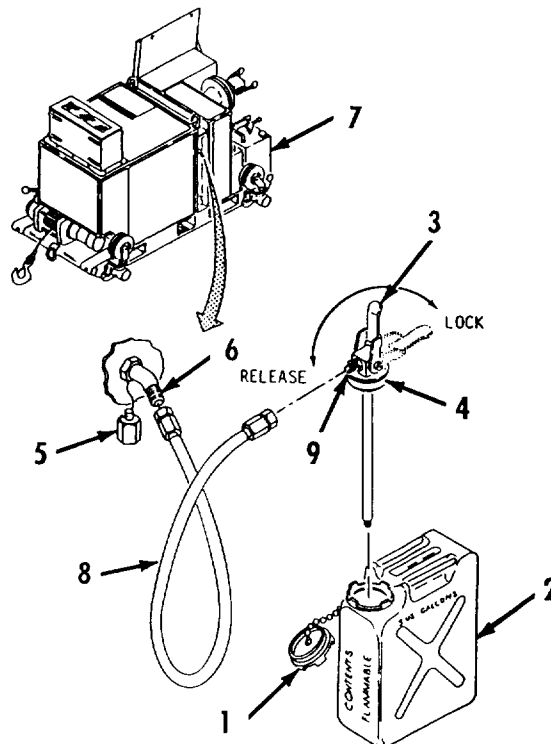

Figure 2-57. Fuel System - 600 GPM Pump External Fuel Can, Adapter and Fuel Hose Removal.
- p. Fuel System - 600 GPM Pump External Fuel Can, Adapter and Fuel Hose Removal. Refer to figure 2-57.